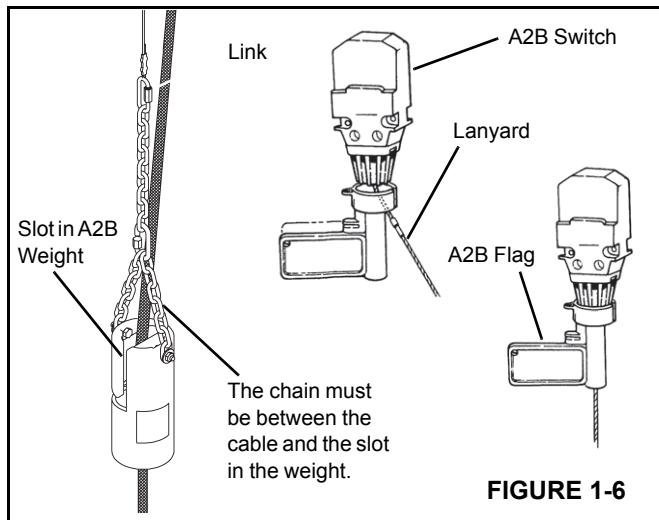

FIGURE 1-6
1. Remove the anti-two-block (A2B) weight and override the A2B system with the A2B flag (Figure 1-6).